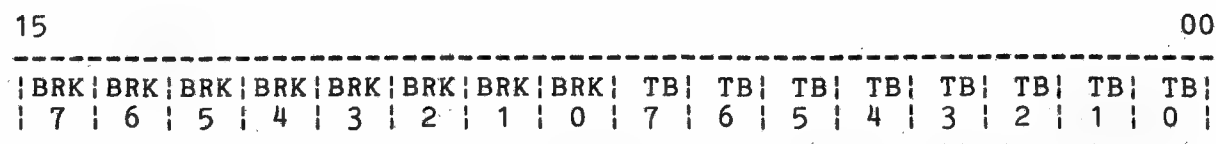

Figure 5-6 Transmit Data Register (TDR)
The Transmit Data Register (Figure 5-6) contains two bytes. The low byte is the transmitter buffer register (TB) and contains the character to be transmitted. The high byte contains a Break bit for each line. When a Break bit is set, the related line begins sending zeros continually until the bit is cleared. The entire register is cleared by either CLR or INIT.